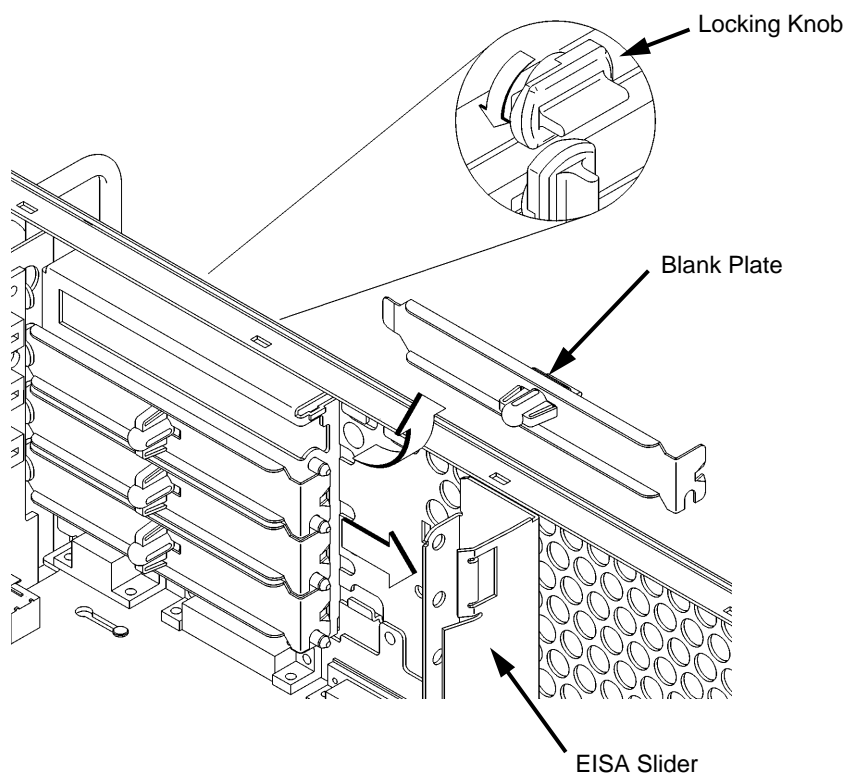

Figure 11
- 4 In the desired option slot, turn the blank plate's locking knob counter-clockwise to unlock the plate, as shown in Figure 11.
- 5 Remove the blank plate from the slot, as shown in Figure 11.